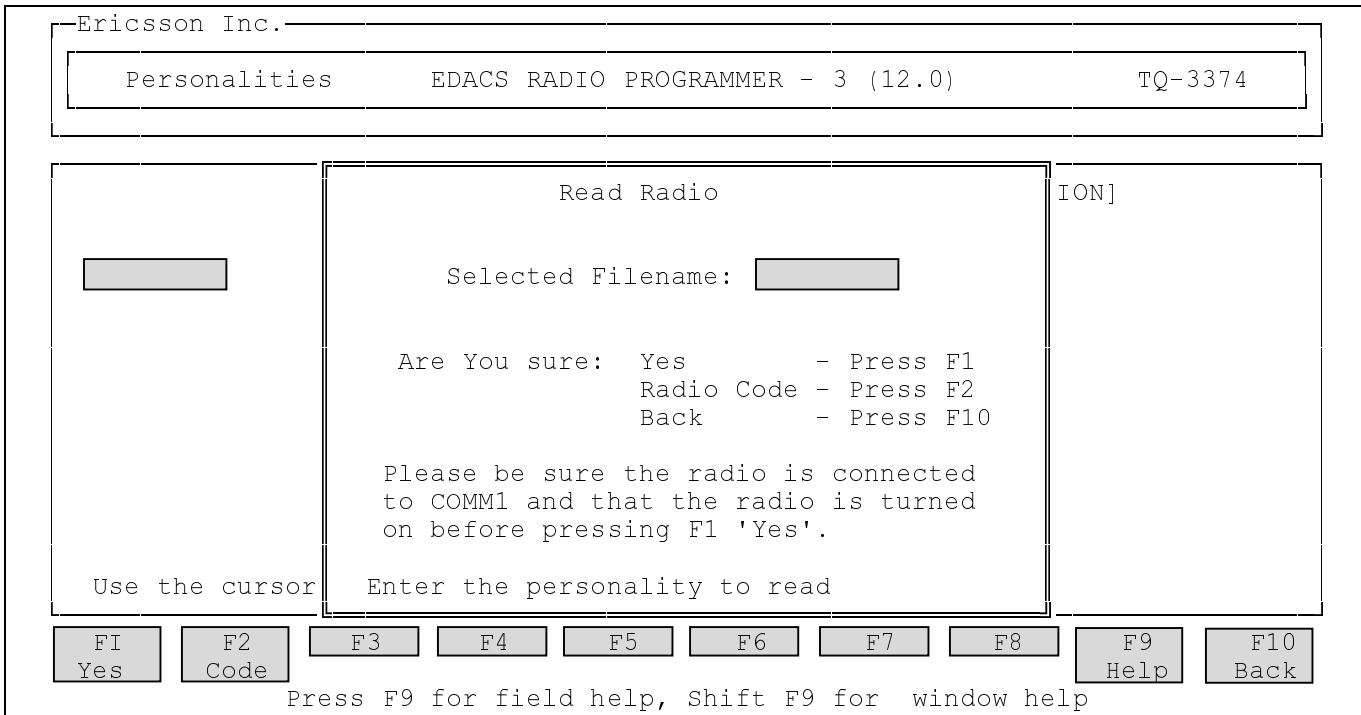

Figure 16 - Read Radio Window
- Press the **F6** (Read) function key to bring up the **Read Radio** window (see Figure 16).